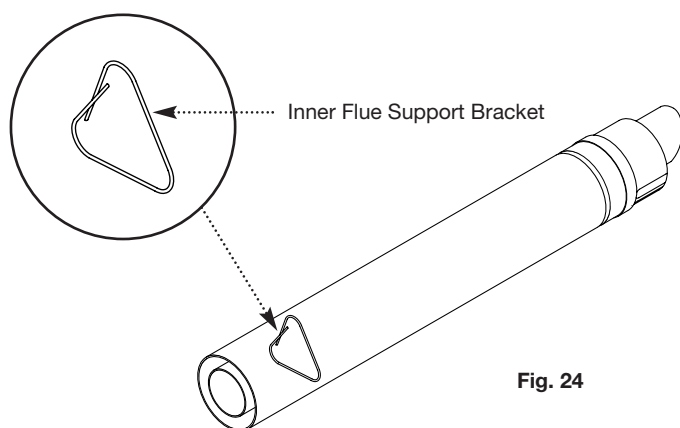

Fig. 24
7. Take the inner flue support bracket (if not already fitted) and engage it over the flue duct. This will centralise the flue and air ducts, and ease assembly (Fig. 24).